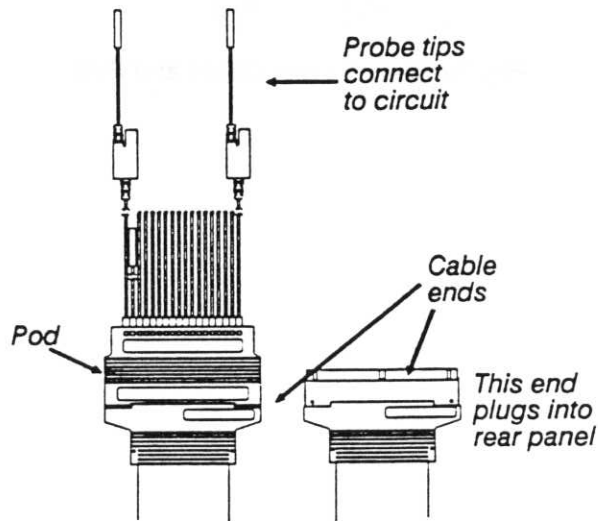
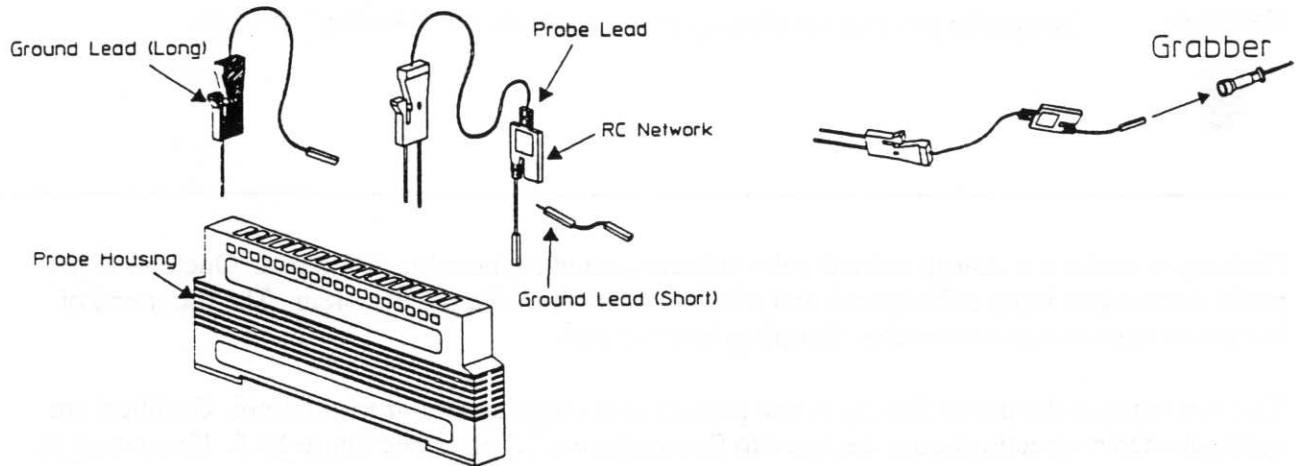
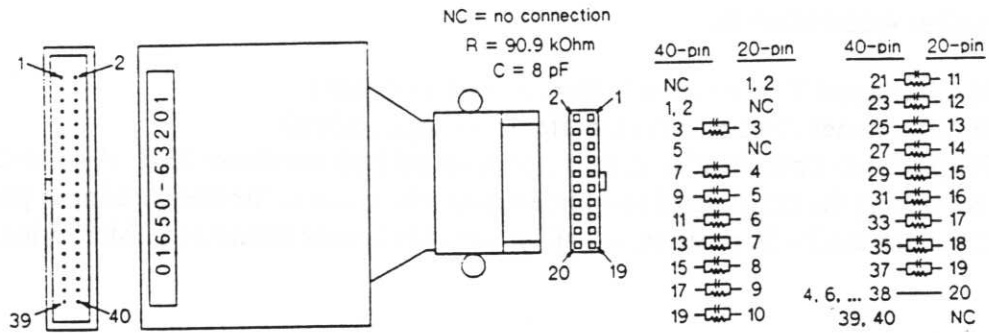

Figure 13-3. Input Cable and Pod
Figure 13-5. Digital Input Pod Assembly
Figure 13-9. Optional Termination-Adapter Pod
There are three identical input cables and input pods supplied with the HP 3563A. During installation these are labeled as Pods 1, 2, and Q. See figure 13-3. The input cables should be connected to the device under test with either the pod tips or the optional termination-adaptor pod. See figure 13-9. These contain signal-conditioning circuitry. The input pods are:
You can connect the probe directly to test pins on your target system or to grabbers. Grabbers are spring-loaded connecting hooks designed to fit on adjacent IC pins. See figure 13-5. If you want to connect to test pins without using the grabbers, the pins must be 0.63 mm (0.025 in.) square or round pins with a diameter between 0.66 mm (0.026 in.) and 0.84 mm (0.33 in.). Most IC test clips work.
Probes can be grounded either through a common pod ground or with a ground connection that exists on each of the probe ends. To reduce noise and aid clocking of high-speed signals, use probe grounds close to the signal source; clock grounding is the most critical. See figure 13-5. There are two ways to connect the digital input signal lines to the target system: with the input probes defined here or with the termination adapter pod shown in figure 13-9. Both of these methods provide the RC signal-conditioning network required by the analyzer inputs ( $90.9\text{ k}\Omega$  in parallel with  $8\text{ pF}$ ). To disconnect a probe from the pod assembly, insert the tip of a ball-point pen in the latch opening while gently pulling the probe out of the probe housing.
- HP 01650-63201 termination adapter pod (for input cables); see figure 13-9. A 40-to-20-pin adapter containing the same signal conditioning circuits as are in the standard input pod. The 20-pin connector is a 2×10 position, 4-wall, low-profile header connector, 3M® Series 3592.